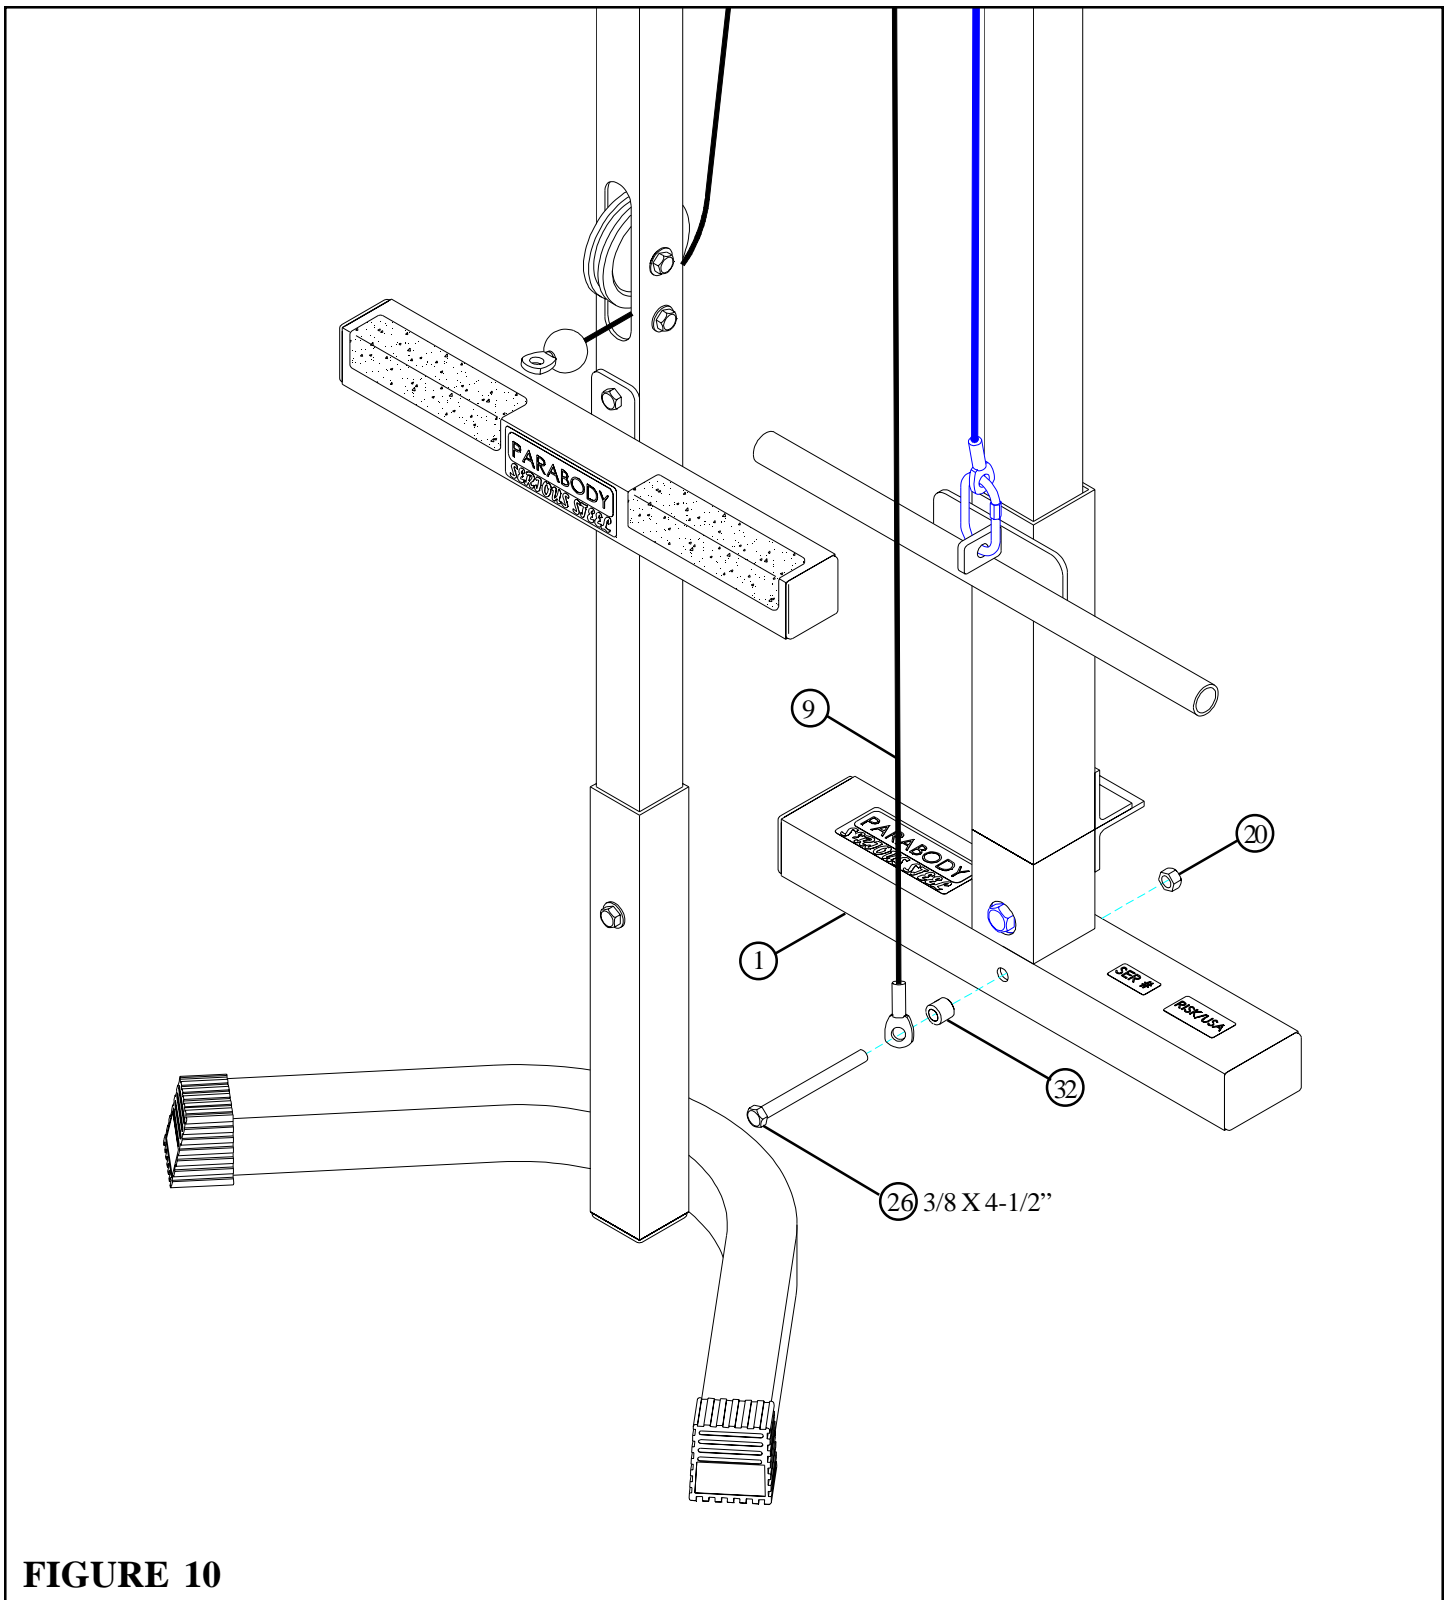

FIGURE 10
- **SECURELY** assemble the CABLE (9) to the BASE (1) using one 3/8 X 4-1/2" BOLT (26), one 3/8 X 1" SPACER (32), and one 3/8" LOCK NUT (20) as shown in FIGURE 10.